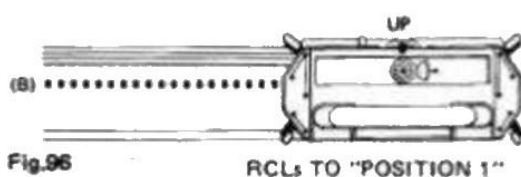

Fig.96
- (a) With carriage on right, set SCLs to "KNIT" position. Bring forward RCLs to "position 1" and pull upward TK. (Fig.96)